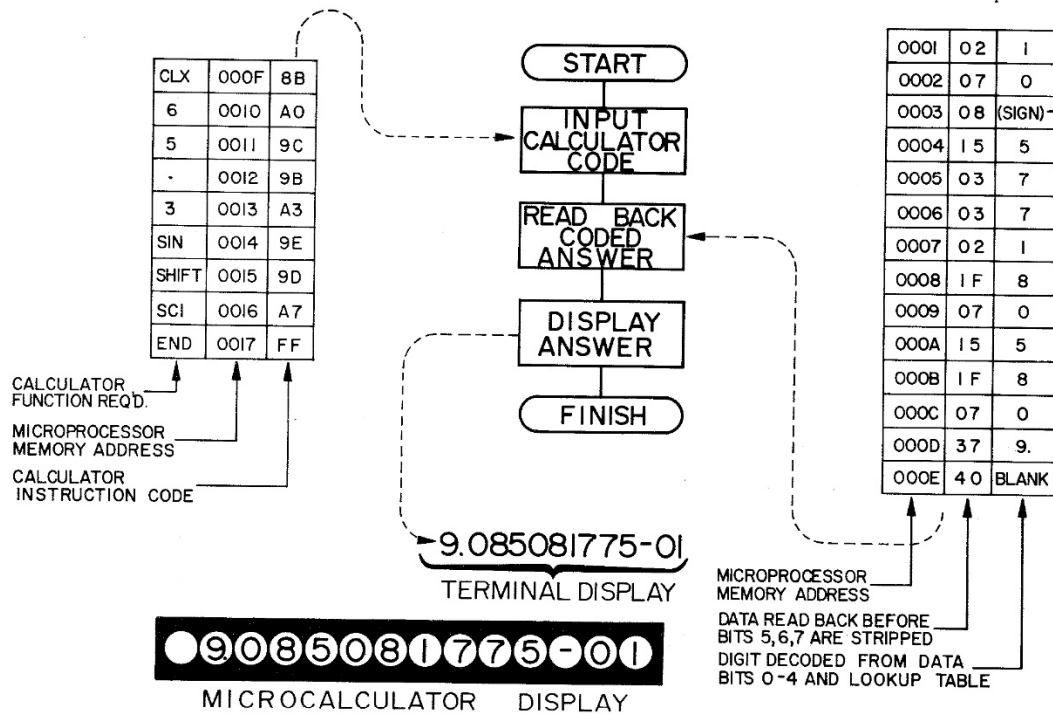

FIGURE 7
The Microcalculator instruction set is shown in figure 3. As with most scientific calculators certain keys perform two functions. In the Microcalculator certain instructions perform two operations. Note that there are two columns which list the key functions (instructions). One column is titled "NORMAL KEY", and the other is titled "SHIFT KEY". Should you want to use an instruction listed under the NORMAL KEY heading, merely write the instruction code listed under the column titled "u - P HEX CODE". If the instruction that you want to use falls under the SHIFT KEY column, the u - P HEX CODE for that instruction must be preceded by the SHIFT instruction code (9D). Using the SHIFT (9D) instruction is required before all instructions listed under the SHIFT KEY column except the LST X, STO, and RCL instructions. Should you precede these three instructions with the SHIFT instruction the Microcalculator would ignore the SHIFT instruction. From figure 7 you will find that the input instructions for 65.3 SIN require no SHIFT instruction; but the SCI instruction to change the display to scientific notation is preceded by the SHIFT instruction code (9D). The coded instruction listed under the u - P HEX CODE column represents the eight (8) bit code to the Microcalculator from the microprocessor.
Figure 7 lists the 8 bits read in for a given example, and should be studied to see the relationship between the bit pattern read and the corresponding character it represents.
Figure 7 illustrates the input code to the Microcalculator from the microprocessor, and the output code from the Microcalculator to the microprocessor for a given problem.
I/O CODE FOR SYSTEM EXAMPLE (Figure 7 Explained)